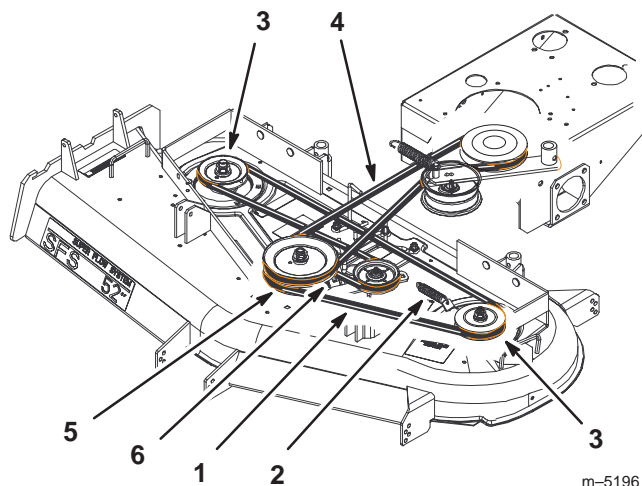

Figure 64
5. Disconnect the idler arm spring to relieve tension on the idler arm and idler pulley, then remove the worn deck belt (Fig. 64).
6. Install the new deck belt around the two outside spindle pulleys, the idler pulley, and in the lower groove of the center spindle pulley (Fig. 64).
7. Connect the idler arm spring (Fig. 64).
11. Adjust deck belt guide an 1/8 in. (3 mm) from belt (Fig. 64).